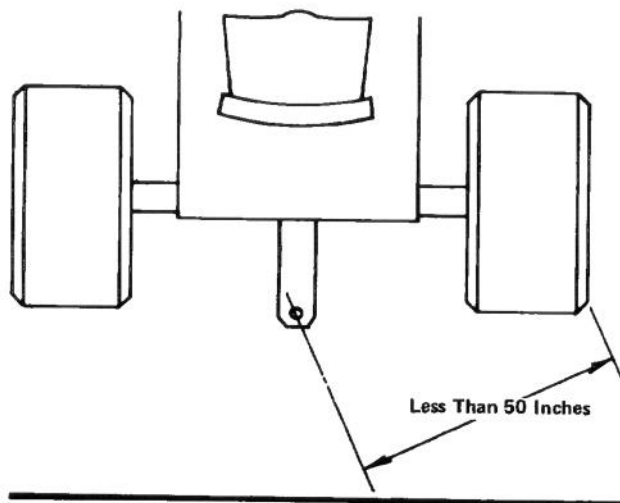

Figure 1
7. Adjust tractor drawbar (hitch) so mounting hole is less than 50 inches from outside of rear tractor tire (Fig. 1). This will prevent interference with front cutting unit lift arms.